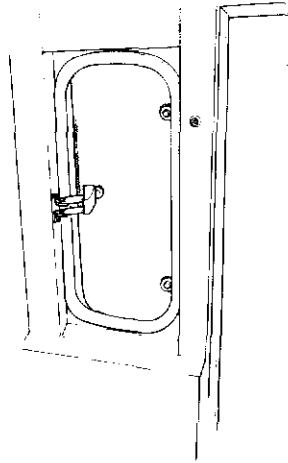

Figure 1-17 Rear Side Window
93. Rear side windows (Fig. 1-17)